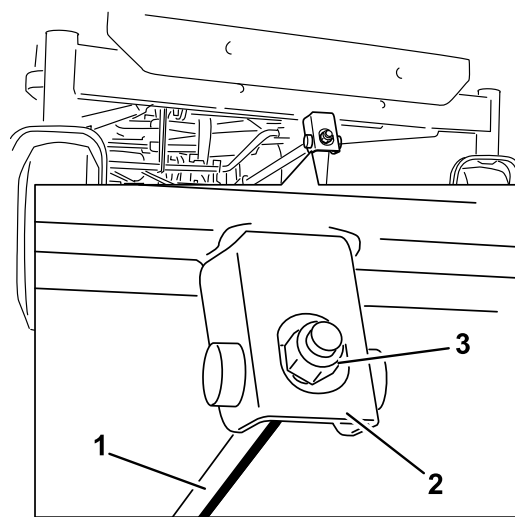

Figure 53
- To adjust the front-to-rear blade slope, rotate the adjustment nut in the front of the mower (Figure 53).